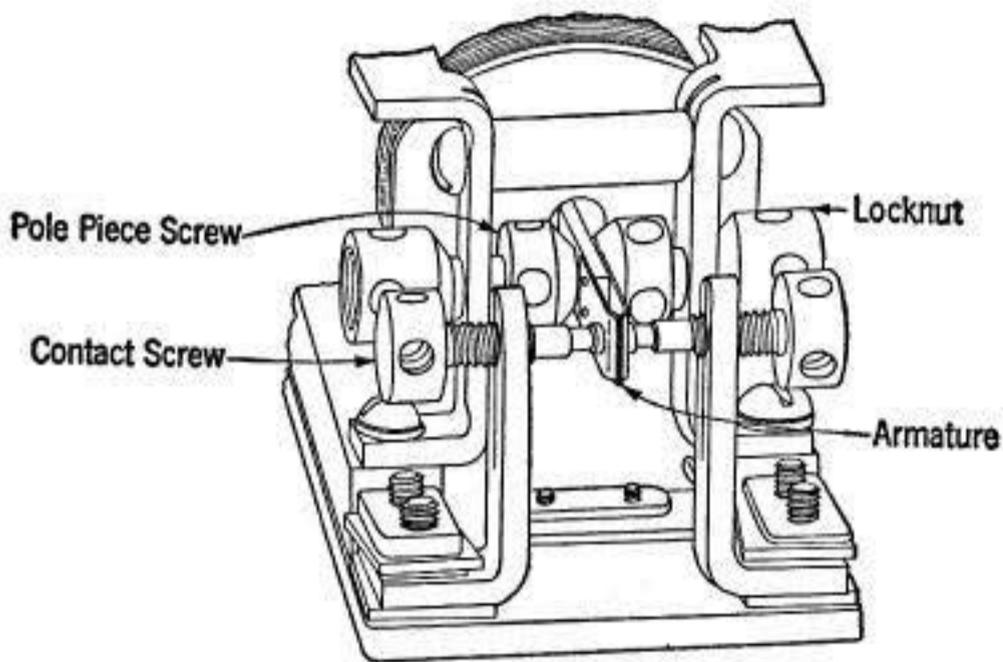

Fig. 2—215-Type Relay
1.04 These relays are of the polar type, used with teletype-writers and teletypewriter subscriber sets as well as in certain other applications. When used as line relays they may be operated by either neutral or polar signals. For use in circuits operated by neutral or open-and-close signals, one winding is connected in the line circuit and the other winding has a locally supplied biasing current. For use in circuits operated by polar signals, the two windings are usually connected in series—aiding in the line circuit. The arrangements of the relay windings and terminals are shown in Figs. 1A and 1B. Figs. 2 to 4 illustrate the relays as viewed from the front with the covers removed.